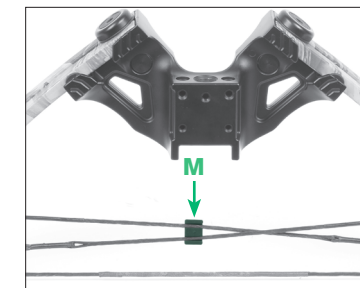

FIGURE 3
- 1a** Attach the cable slide (Part M) to the cables. The cable slide has a larger gap on one side to properly slide onto the rail. (Fig. 3)